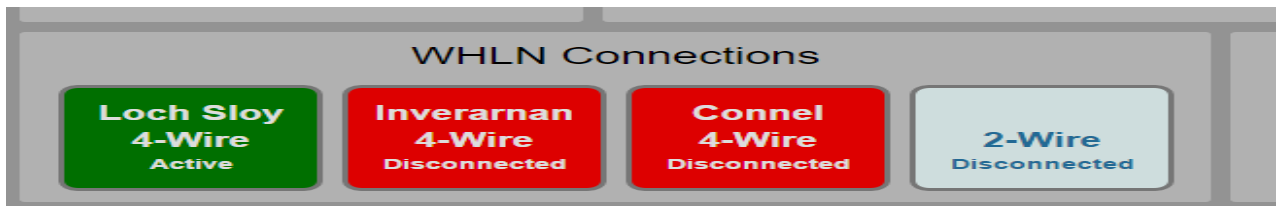

Figure 3 – Signallers Control Console
- 2.1 Using the Signallers Control Console (Figure 3), carry out a Full System Test over the 4-wire and confirm that a response is received from each site.